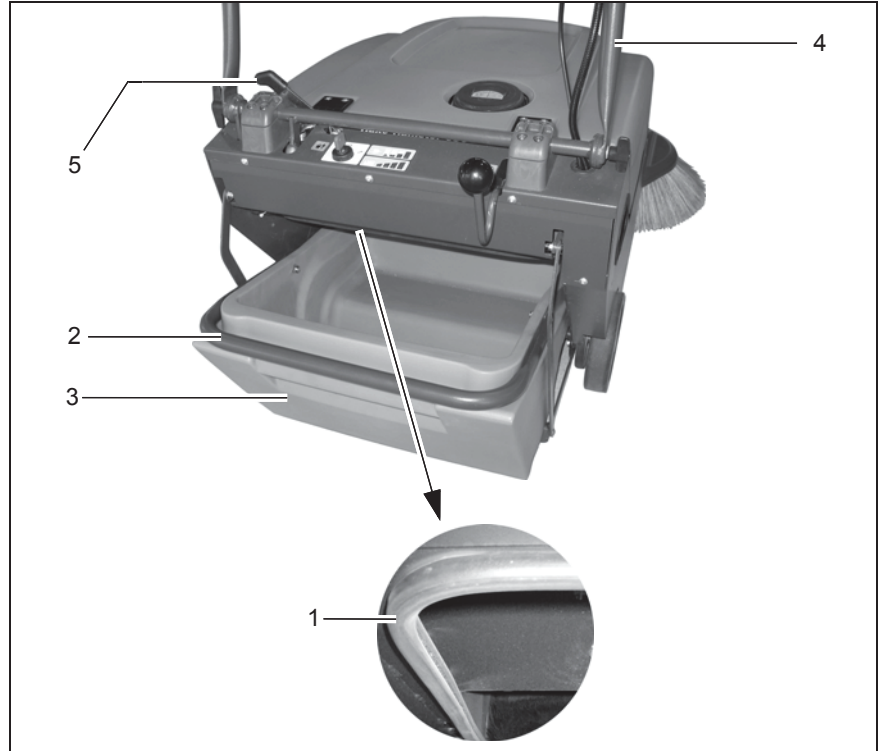

Fig. 24
1. Switch the machine off and move the lever (Fig. 24/5) for locking the dirt hopper to the right (looking in drive direction) and, at the same time, pivot the handlebar (Fig. 24/4) forwards. The frame (Fig. 25/2) of the dirt hopper is lowered.
The engine must be at a standstill before the dirt hopper (Fig. 24/3) is removed. Risk of injury through swirling waste and dust!
2. Hold the dirt hopper (Fig. 24/3) by the handle (Fig. 24/2) and pull it to the rear and out of the machine
Check the fill level of the dirt hopper (Fig. 24/3) regularly and empty it regularly and as necessary.
1. Insert the dirt hopper (Fig. 24/3) back in the machine from the rear until they perceptibly engage in the frame (Fig. 25/2).
2. Pivot the handlebar (Fig. 24/4) towards the rear until the lever (Fig. 24/5) for locking the dirt hoppers audibly engages.
Clean the panel air filter (Fig. 24/5) in the dust vacuum regularly and as necessary using the shaking device:
1. When the engine is switched off, pull/push the lever (Fig. 24/9) of the shaking device quickly, several times.
1. Unlock the hood (Fig. 24/7) using a square wrench and open the hood (Fig. 24/7).
Ensure the engine has stopped before opening the hood (Fig. 24/7). Risk of injury through belt drive and rotating fan (Fig. 24/3)!
2. Release the top filter cover locks: Unscrew the knurled screws (Fig. 24/1) from the threaded pins (Fig. 24/4).
3. Release the bottom filter cover locks: Pivot the hinged locks (Fig. 24/6) outwards.
4. Remove the filter cover (Fig. 24/8).
5. Remove the panel air filter (Fig. 24/5).
1. Drop the panel air filter (Fig. 24/5) a few times from a small height onto a level, solid surface. Be careful not to damage the filter ribs!
The ground must not have any surface irregularities. Do not drop the panel air filter (Fig. 24/5) onto the ground at a slant.
Never install panel air filters (Fig. 24/5) which have damaged filter ribs!
If the panel air filter (Fig. 24/5) is removed, check the self-adhesive sealing strips (Fig. 24/2) for signs of damage. Damaged sealing strips (Fig. 24/2) must be replaced:
1. Pull off the damaged sealing strips (Fig. 24/2).
2. Clean any residual adhesive from the surfaces on which the sealing strips (Fig. 24/2) must be adhered.
3. Adhere the new sealing strips (Fig. 24/2).
1. Insert the thoroughly cleaned or new panel air filter (Fig. 24/5) from the correct side in the filter support frame.
Pay attention to the labeling on the side of the panel air filter (Fig. 24/5)!
2. Replace the filter cover (Fig. 24/8).
3. Close the bottom filter cover locks: Pivot the hinged locks (Fig. 24/6) over the edge of the filter cover (Fig. 24/8).
4. Close the top filter cover locks: Screw the knurled screws (Fig. 24/1) on the threaded pins (Fig. 24/4).
5. Close the hood (Fig. 24/7) so that it audibly locks.
5. Check whether dust has accumulated on the inner side of the panel air filter (Fig. 24/5).
Do not open the hood (Fig. 24/7) when the engine is running. Risk of injury through belt drive and rotating fan(Fig. 24/3)!
Do not open the hood (Fig. 24/7) when the engine is running. Risk of injury through belt drive and rotating fan (Fig. 24/3)!